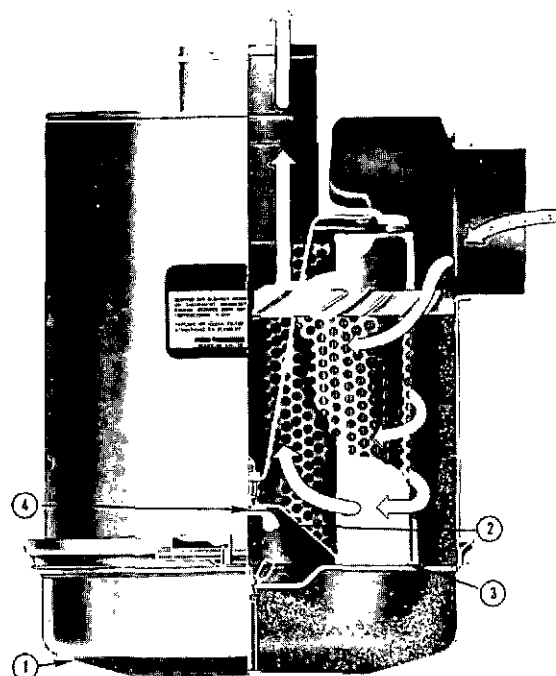
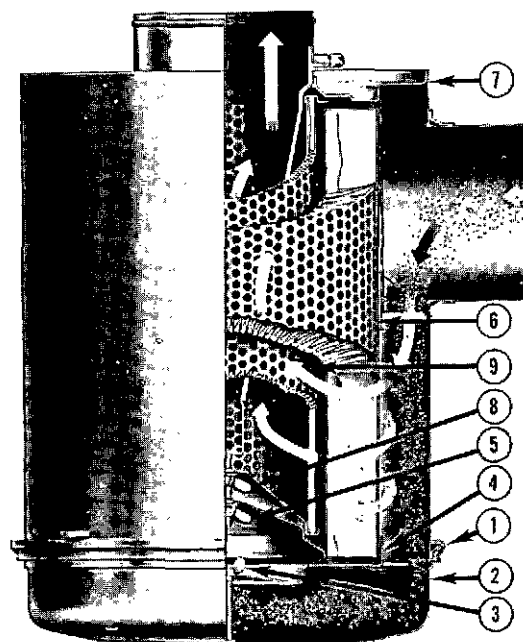

Fig. 2-5 (V10005) Air cleaner — heavy duty
Fig. 2-6 (N11030) Air cleaner — heavy duty dual element
1. Loosen wing bolt, remove band securing dust pan (1, Fig. 2-5), (2, Fig. 2-6).
2. Loosen wing nut (2, Fig. 2-5 and 3, Fig. 2-6), remove dust shield (3, Fig. 2-5), (4, Fig. 2-6), from dust pan (1, Fig. 2-5), (2, Fig. 2-6), clean dust pan and shield.
3. Remove wing nut (2, Fig. 2-5), (5, Fig. 2-6) securing air cleaner primary element (6, Fig. 2-6) in air cleaner housing, inspect rubber sealing washer on wing nut (4, Fig. 2-5), (5, Fig. 2-6).
- a. Check air restriction indicator, if air restriction is excessive, disassemble air cleaner, remove wing nut (8, Fig. 2-6), and replace safety element (9).